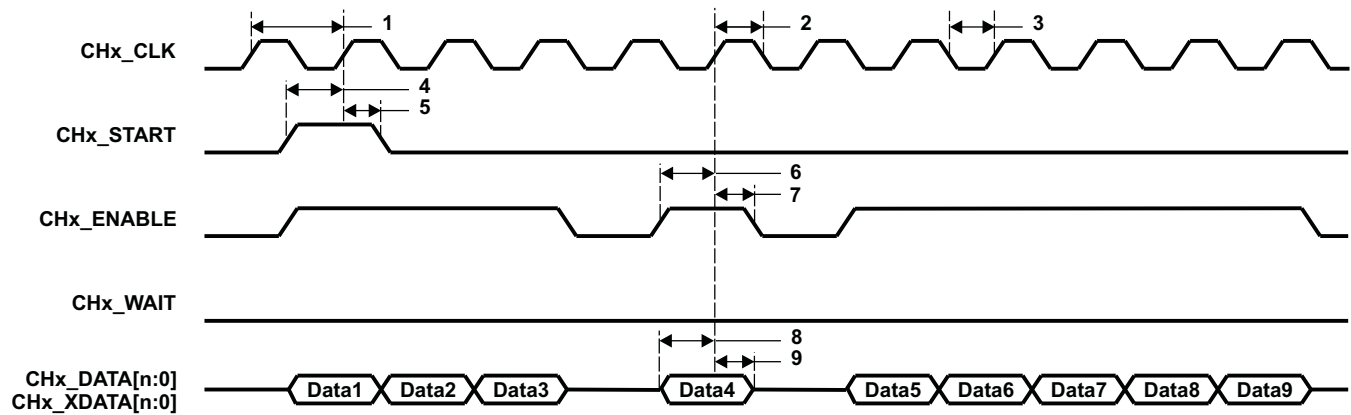
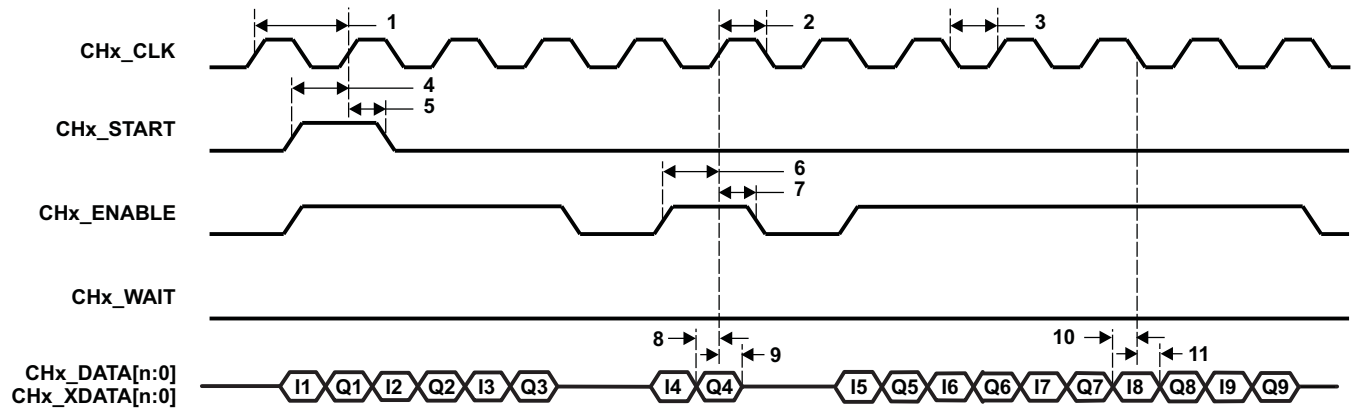
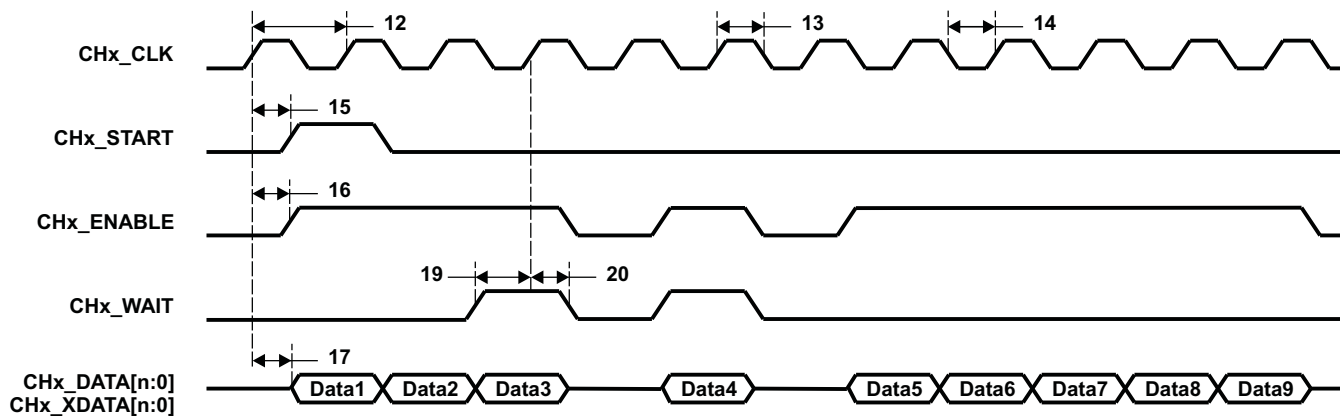
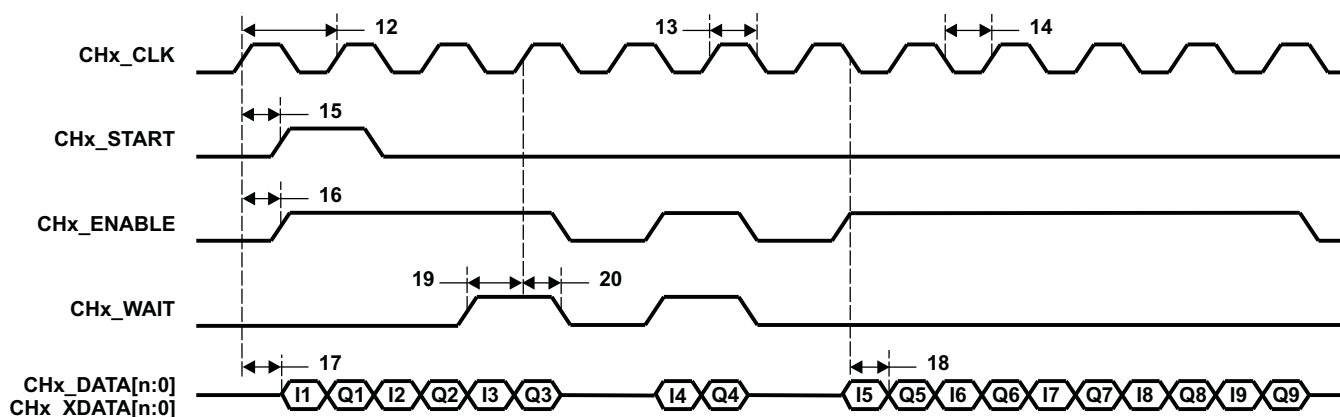

Figure 6-61. uPP Single Data Rate (SDR) Receive Timing
Figure 6-62. uPP Double Data Rate (DDR) Receive Timing
Figure 6-63. uPP Single Data Rate (SDR) Transmit Timing
Figure 6-64. uPP Double Data Rate (DDR) Transmit Timing
**Table 6-94. Timing Requirements for uPP (see Figure 6-61, Figure 6-62, Figure 6-63, Figure 6-64)**